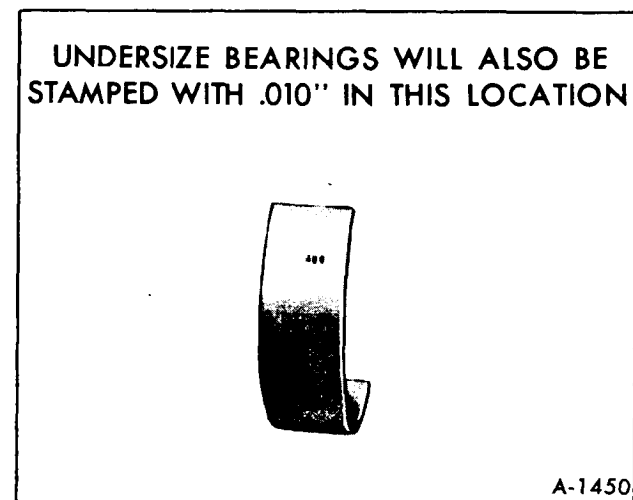

Figure 38—Bearing Identification
**NOTE:** Bearings are identified as shown in Figure 38.